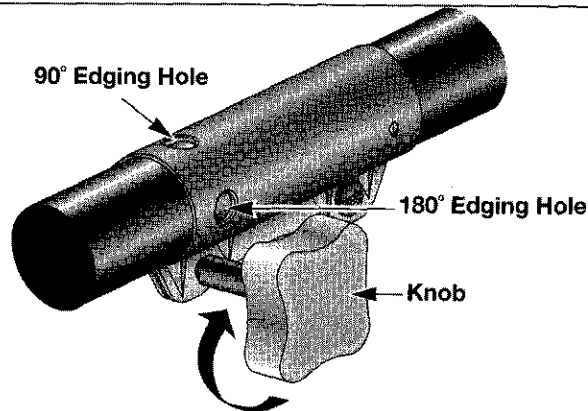

Fig. 10
3. Turn the knob clockwise to tighten (Fig. 10).
NOTE: For edging with Click-Link® models, lock the release button of the cutting attachment into the 90° edging hole or the 180° edging hole (Fig. 10).